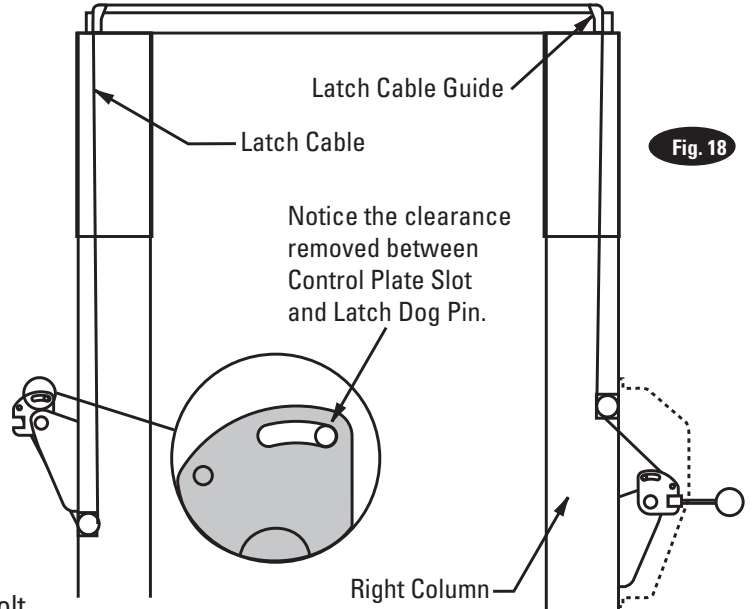
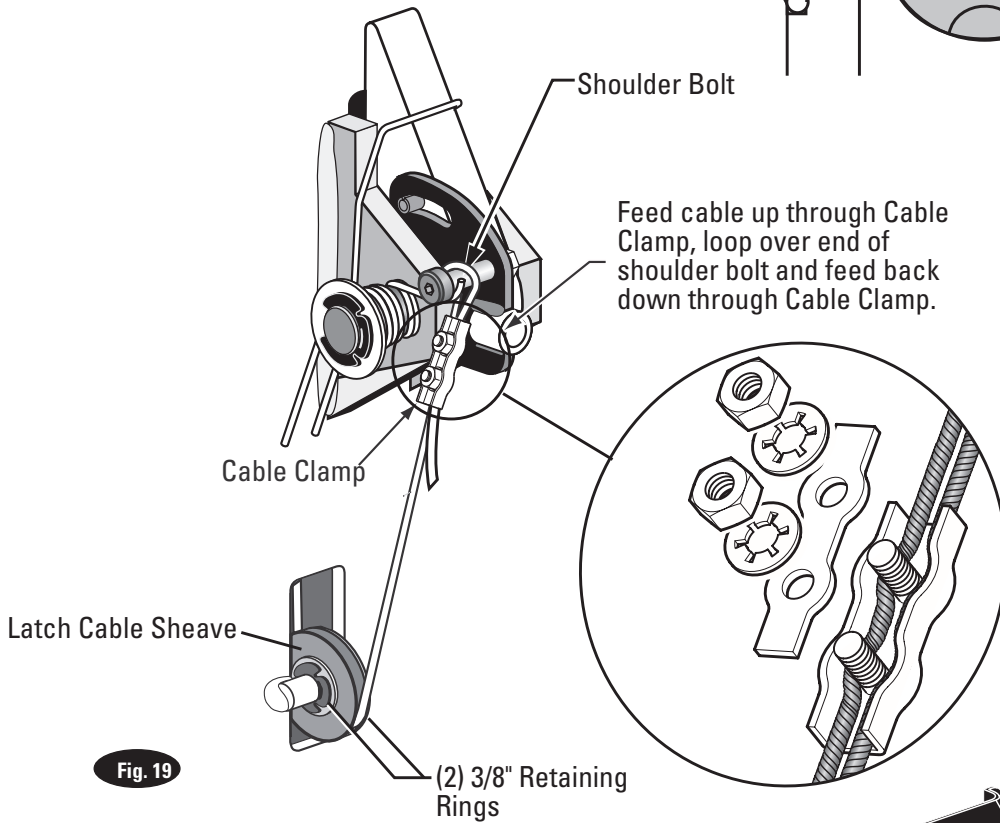

Fig. 18
Fig. 19
- E) Route cable up inside column and through the latch cable guide, Fig. 16a & Fig. 18.
- F) Continue routing cable to the left column latch cable guide, Fig. 16a & Fig. 18, routing the cable through the left column latch cable guide, Fig. 16a.
- G) Bring the cable down inside the left column and feed the end of the cable through the lower latch cable sheave slot so that the cable is now back outside the column, Fig. 19.
- H) Route cable under the bottom side of the latch cable sheave, Fig. 19.
- J) Insert cable in cable clamp along one side, loop around shoulder screw and back down, inserting cable along other side of cable clamp, Fig. 19. Place top back on clamp, barely tightening.
- K) Next, pull the control plate down, Fig. 18 & Fig. 19, to eliminate any clearance between the control plate slot and the latch dog pin, Fig. 18.